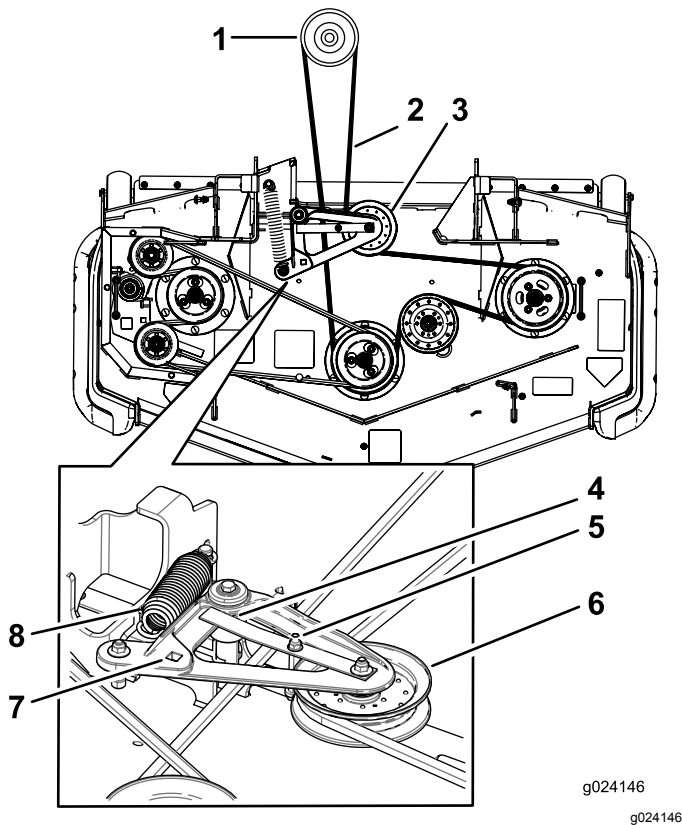

Figure 91
6. Use a ratchet in the square hole in the idler arm to remove tension on the idler spring (Figure 91).
8. Install the new belt around the mower pulleys and the clutch pulley under the engine (Figure 91).
10. Using the ratchet in the square hole, install the belt around the spring-loaded idler pulley (Figure 91). Seat the spring ends in the anchor grooves.